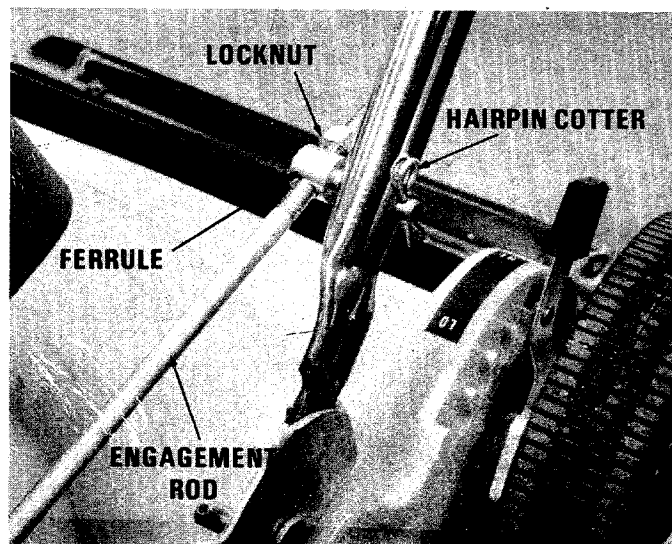

FIGURE 7.
1. Remove hairpin cotter. See figure 7.